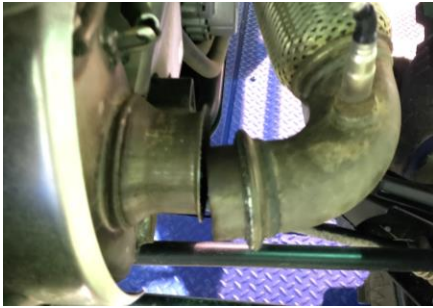

Figure 2
3. Loosen and remove the v-band clamp securing the muffler inlet to the exhaust pipe and disconnect the joint. Leave the gasket on the vehicle exhaust pipe. **Refer to Figure 2.**
4. Remove the two (2) springs (one on either side of the muffler body) that secure the muffler to the vehicle.